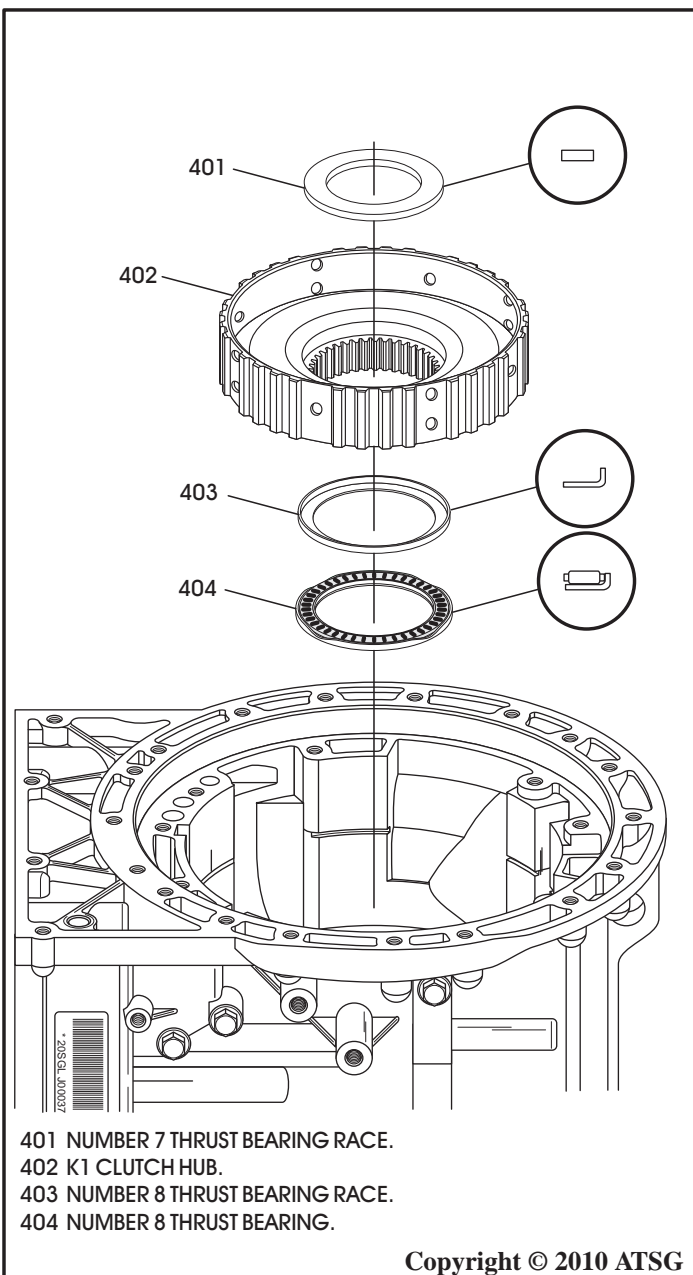

Figure 212
25. Install the number 8 thrust bearing, as shown in Figure 212, on top of large sun gear and shell.
26. Ensure the number 8 thrust bearing race is still stuck to the back of K1 clutch hub, as shown in Figure 212, and install K1 clutch hub assembly.
27. Install number 7 thrust bearing race, as shown in Figure 212, in center of installed K1 clutch hub.